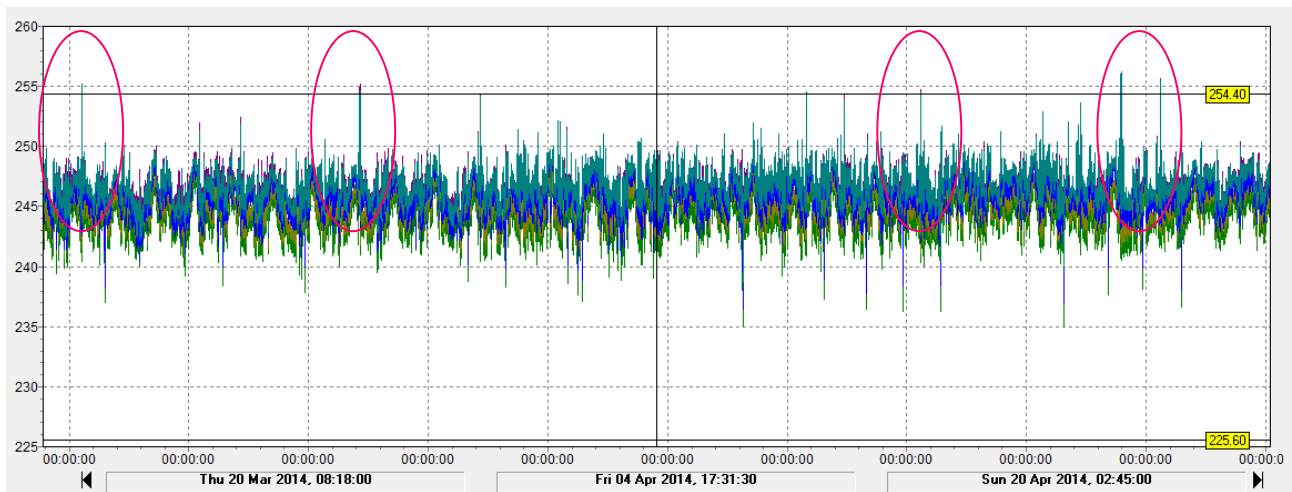

Figure 6: Voltage Min/Max Graph
The Min/Max phase voltage graph in Figure 6 below displays the average, the minimum and maximum values of the aggregated voltage within the 60 second logging interval; nine (9) traces in total, with results summarised in the table below.